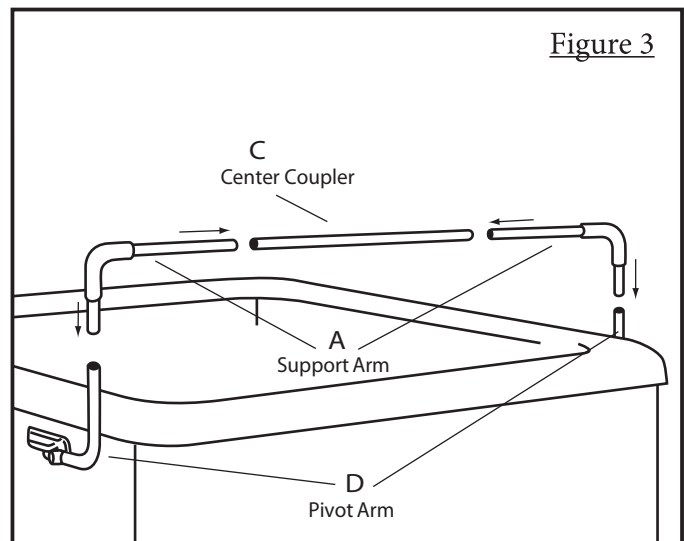

Figure 3
While keeping the horizontal position (pressed up against vertical slat) gently slide the bracket up or down to your desired position\* while staying between the green safe zone shown in 'Figure 3' (300mm from under the acrylic). The bracket assembly should be level before being screwed in.
Insert the long end of the Support Arms (A) into the Center Coupler (C) then slide the short ends of the Support Arms into the Pivot Arms (D) (see 'Figure 3'). We will refer to connected Support Arms and Center Coupler bar as the 'lifter bar' for the next step.